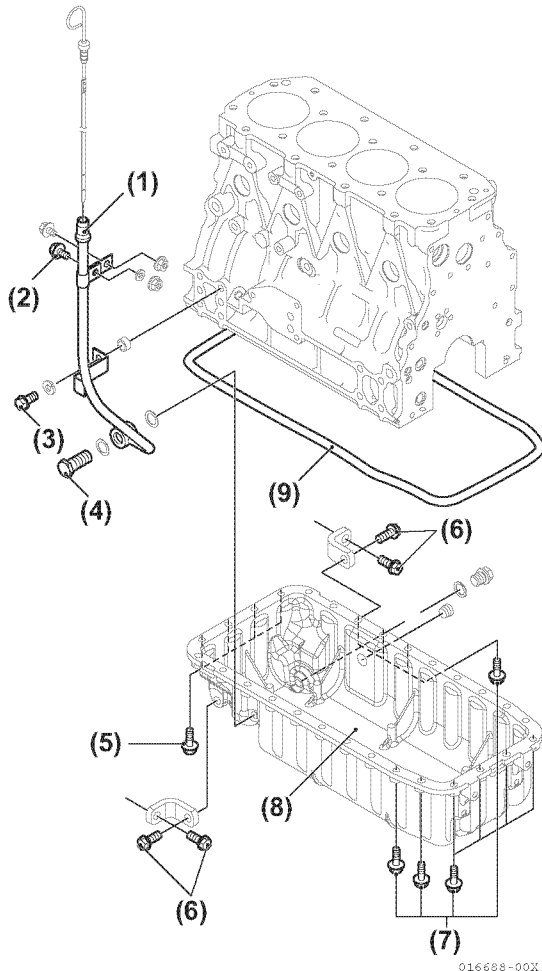

Figure 8-10
2. Remove bolt **(Figure 8-10, (2),(3))** securing oil dipstick tube to cylinder block or support. Remove piping bolt **(Figure 8-10, (4))** and oil dipstick tube **(Figure 8-10, (1))** from oil sump.
3. Remove bolts **(Figure 8-10, (5),(6))** that secure oil sump to flywheel housing.
4. Remove bolts **(Figure 8-10, (7))** securing oil sump to cylinder block.
5. Remove oil sump **(Figure 8-10, (8))** and gasket **(Figure 8-10, (9))**.